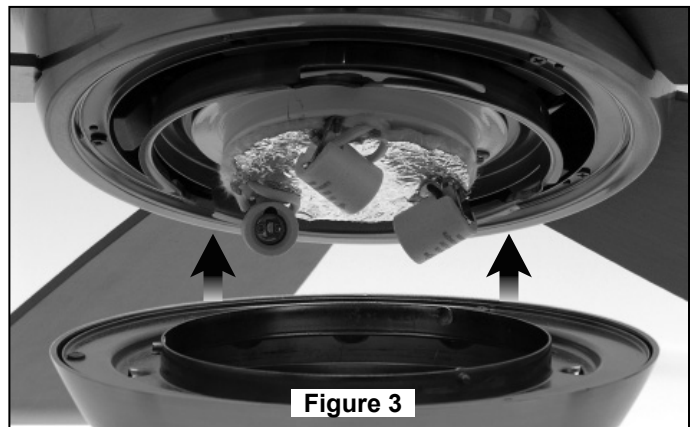

Figure 3
3. Carefully lift the fan and seat the downrod/hanger ball assembly on the hanger bracket that was just attached to the outlet box (Figure 3). Be sure the groove in the ball is lined up with tab on the hanger bracket (Figure 2).
- Connect wires as indicated: (Figure 3)
1. Operating & Using Remote Transmitter (Figure 3): Install 9 volt battery (If not using for long periods of time, remove battery to prevent damage to transmitter). Store the transmitter away from excess heat or humidity.
3. Securely attach plugs from motor to sockets on Downlight Support Plate Assembly (Figure 3)
4. Assemble the Lower Bowl Housing Assembly into the Adapters' slots. (Figure 3)